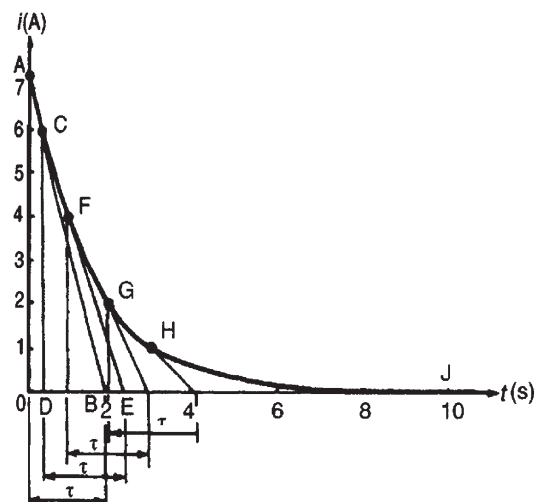

Figure 18.14
- With reference to Fig. 18.14, the initial slope is obtained by making OB equal to 1 time constant, (i.e. 2 s), and joining AB .